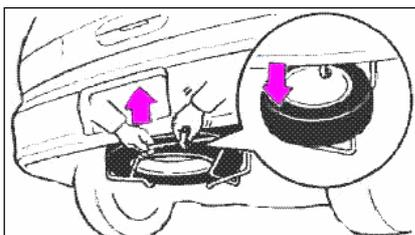

Fig.106
3. Lift the wire cage to remove the retaining hook (Fig.106) and slowly lower the spare wheel. The wheel should now slide out.